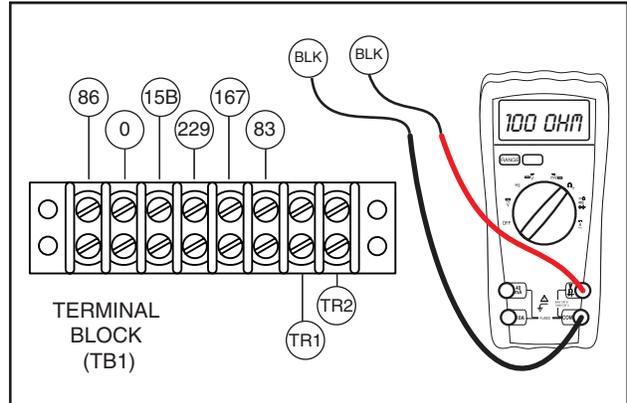

Figure 6-61. Check Idle Transformer Wiring
2. Remove the two Idle Control Transformer (ICT) Wires from Terminal Block 1 (TB1). See Figure 6-61.